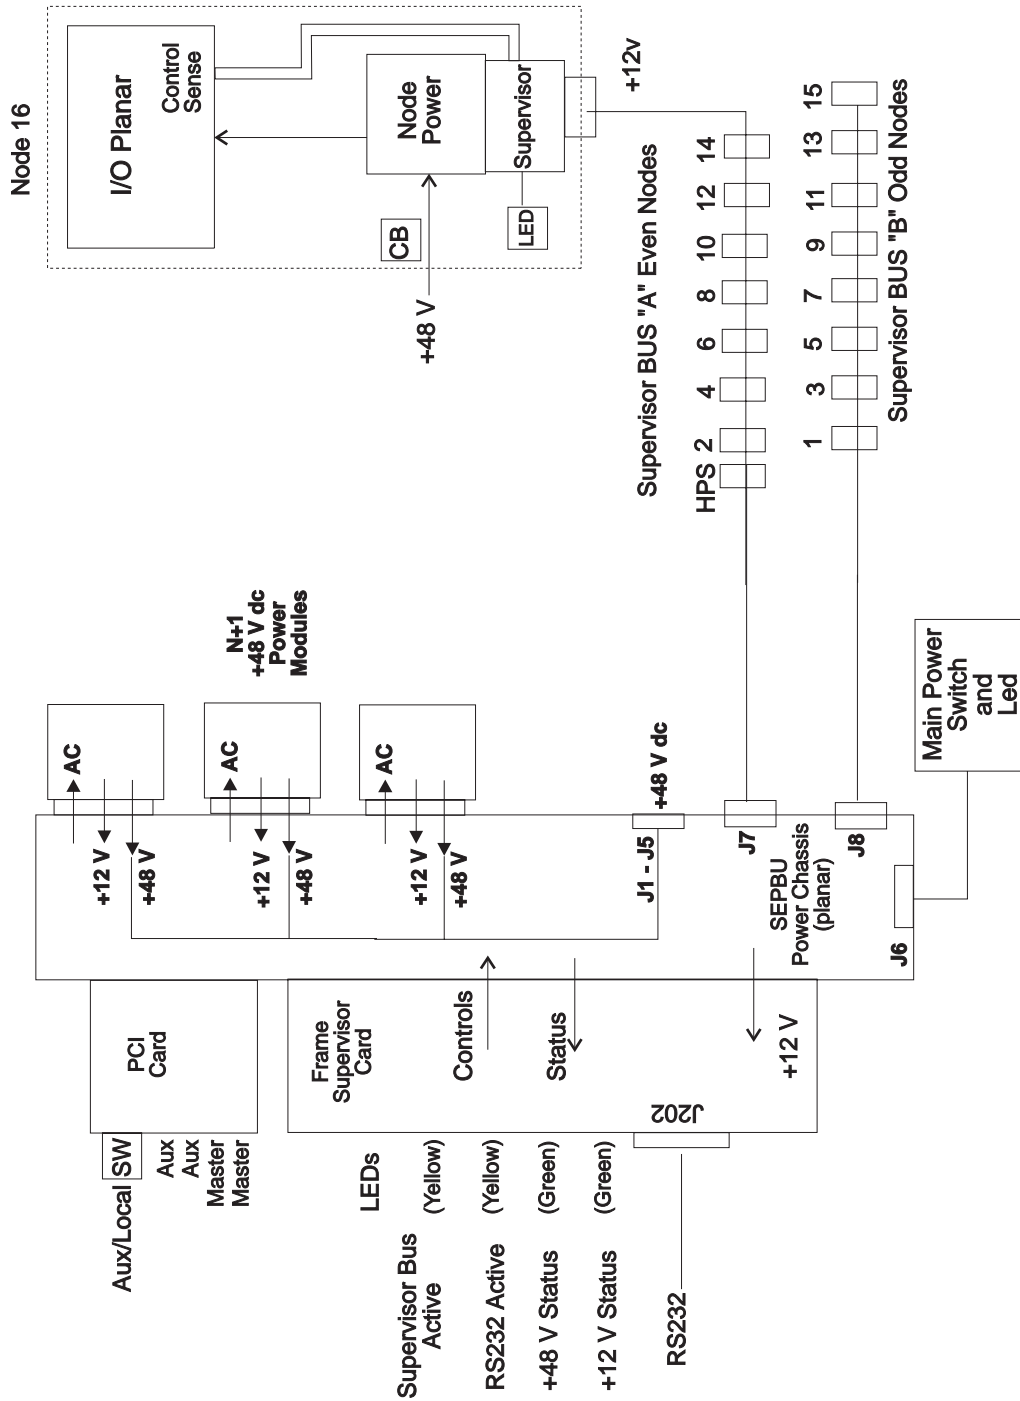

Figure 1-2. RS/6000 SP supervisor subsystem diagram (SEPBU)
- Figure 1-2 on page 1-14 illustrates SEPBU supervisor subsystem